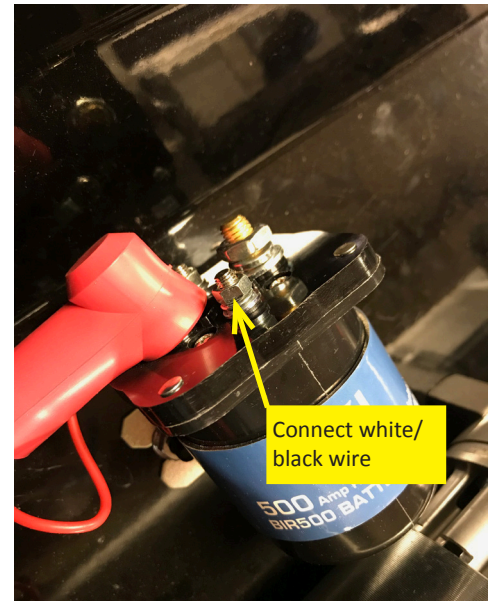

Figure 9
- 8 Connect the white/black wire (**ITEM 12**) to the white/black wire of the electric controls system using the butt connector (**ITEM 13**). Route the connected wire through the knockout to the open small stud on the solenoid. Cut off excess wire, connect the ring terminal (**ITEM 14**) and connect to the open small stud. Figure 9